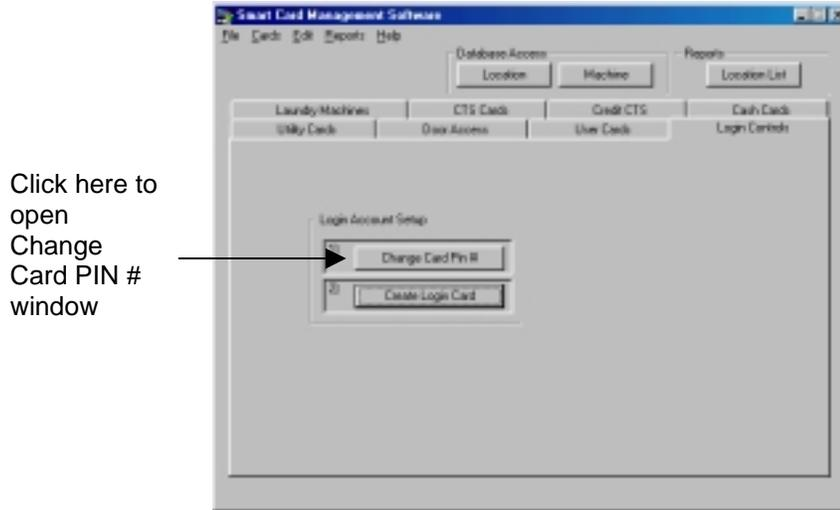

Figure 4.8 Opening the Change Card PIN # Window
1. In the Login Controls tab, click the Change Card PIN # button (Figure 4.8).